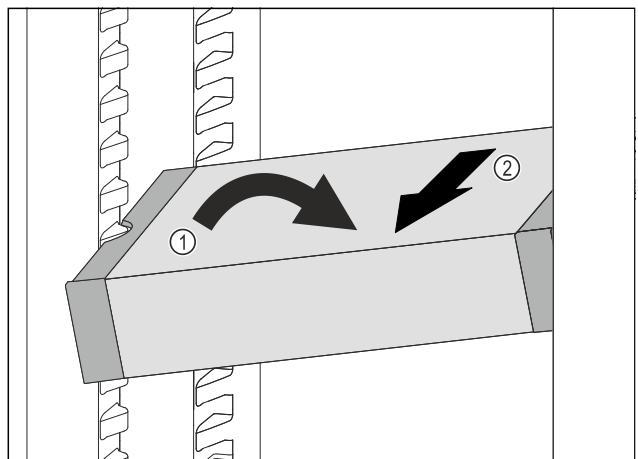

Fig. 122
- ▶ Set VarioSafe in refrigerator compartment at an angle. *Fig. 122 (1)*
- ▶ Take VarioSafe out to the front. *Fig. 122 (2)*